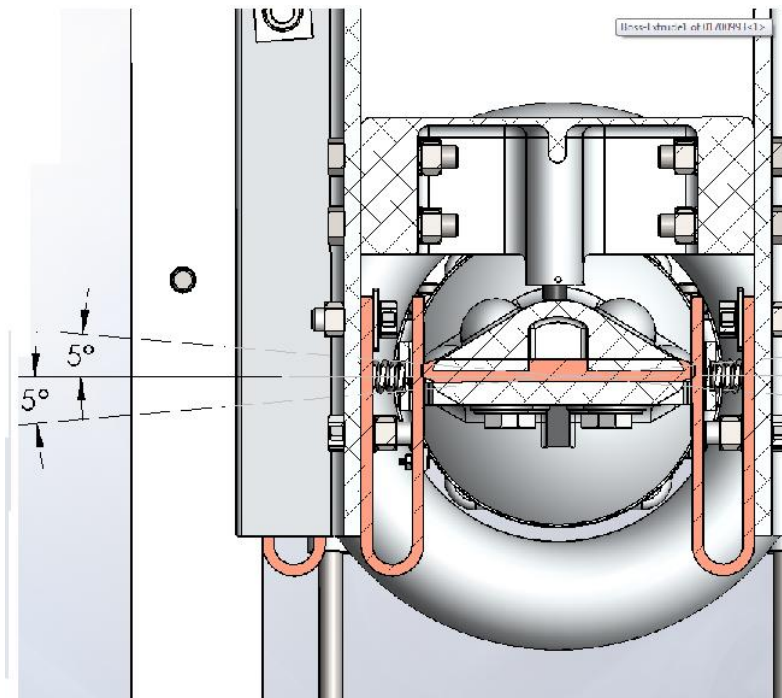

Figure 13: Jaw contact orientation
- 12.5. Place bearing into toggle by closing it completely. Check hinge contact bar for alignment. Close the bearing more if more travel is required. See **Figure 13**.
- 12.6. Using a pipe strap turn the blade. The contact orientation should be checked. See **Figure 13**.